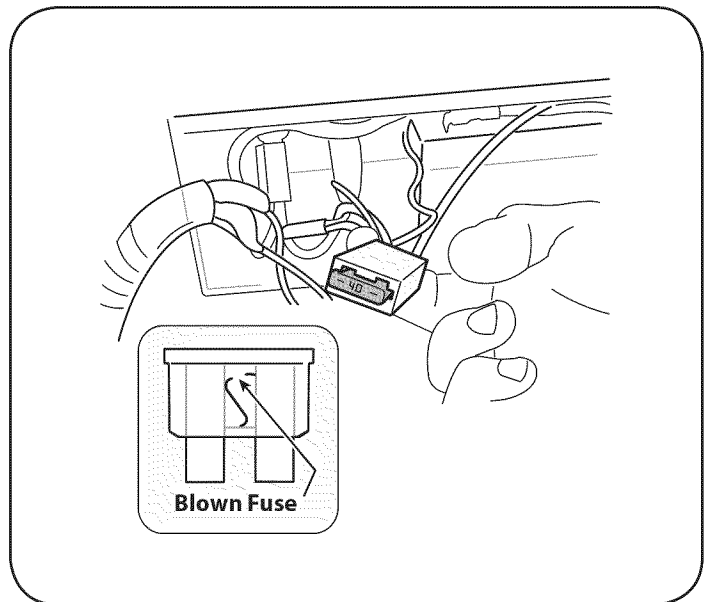

Figure 22
- Remove fuse from socket and inspect as shown in Figure 22. If it is burned out, replace with standard automotive 40 ampere fuse.